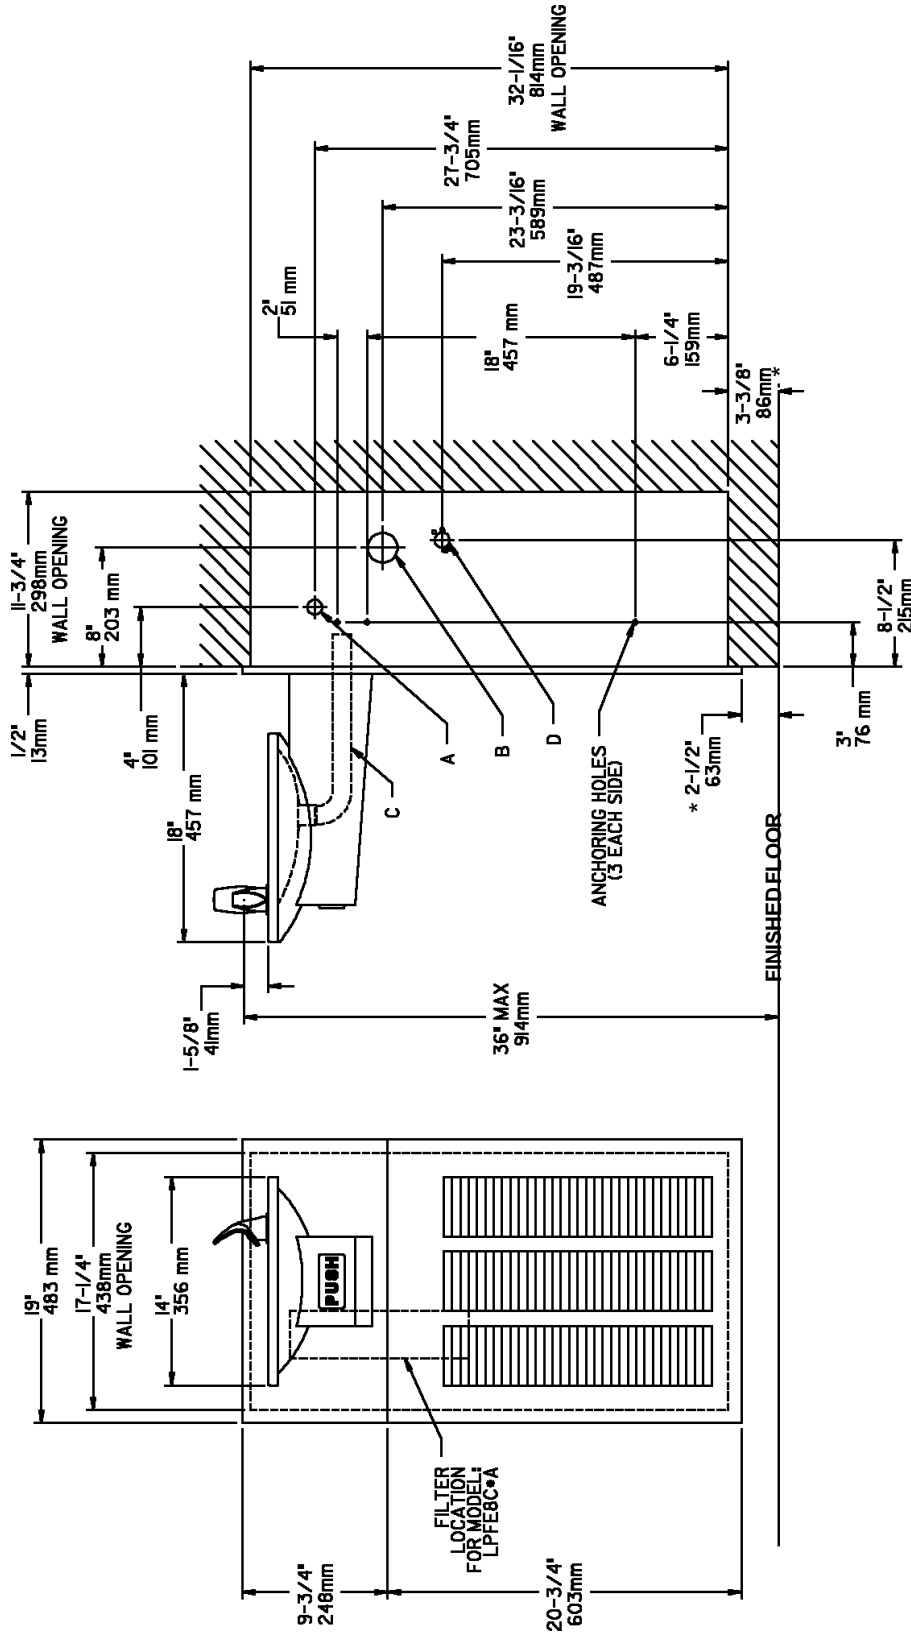
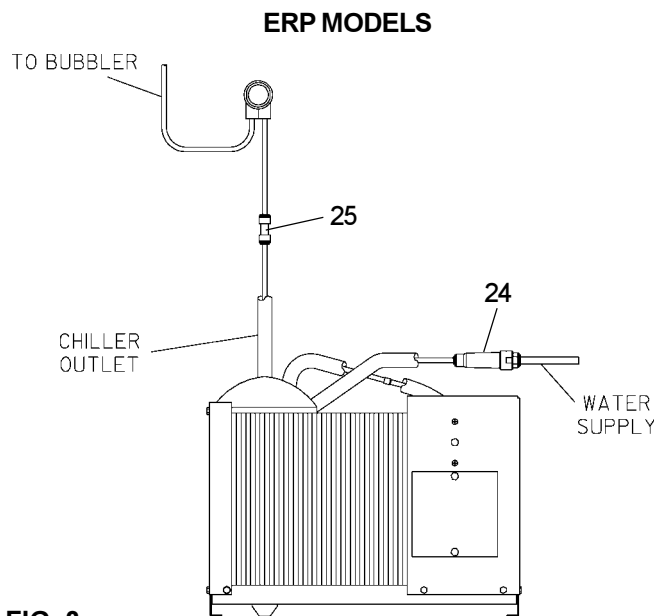

FIG. 1
FIG. 2
1. **Fasten mounting box** into wall cutout using (6) screws or bolts (provided by others) through holes or knockouts provided on each side of the mounting box. (See Fig. 1)
2. **Mount back panel** using (2) #8 x .50 (13mm) pan head screws and (2) large clips provided.
3. **Secure fountain body** through back panel to wall box using (4) 5/16" - 18 x 1.75" (44mm) hex head bolts, (4) 5/16" - 18 nuts and (2) spacers provided. Use spacers with bottom bolts when securing fountain body.
4. **Place refrigeration package inside mounting box** and connect water outlet tube on refrigeration package to water in tube on regulator holder (Item 10) with tubing and fitting provided. (See Fig 2)